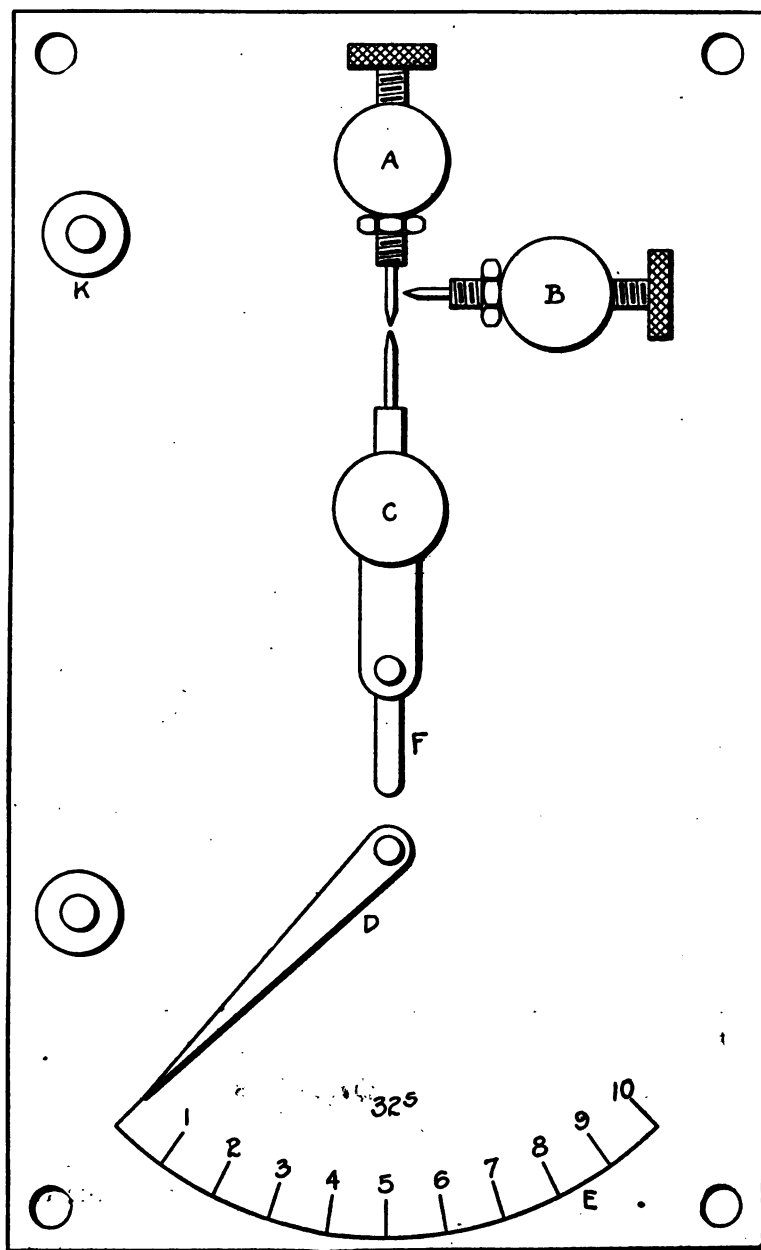

Fig. 418. High-Tension Test Points with Astatic Gap
**Proofs.** A magneto is placed in the test stand and the plug wires are connected to the multiple gap, Fig. 418. Starting with a low speed, each point will be seen to spark perfectly, and this will continue until a higher speed is reached, when two of the points, 1 and 4 or 2 and 3, will cut out either all the time or intermittently. This failure closely resembles breaker trouble, but if the missing gap be shorted with a screw driver, the missing will be transferred
**Astatic Gap.** The astatic gap has three points, Fig. 418. Point *A* is connected to the high-tension lead of the coil or arma-
**Special Dial Gap.** For quick results, utilize the special dial gap, Fig. 418. This gap has a fiber base  $\frac{1}{4}'' \times 3\frac{1}{4}'' \times 5\frac{1}{2}''$ , on which are mounted two stationary points marked *A* and *B* and a grounded movable point *C*; below is a pointer *D*, which moves on the scale *E*. The movable point *C* slides in the slot *F* and is held by a plate and two rivets. The lower part of the point body *C* projects through and forms one rivet, while the other projects through the plate about  $\frac{1}{4}$  inch, and the cam bears on it, as well as the spring, holding the plate assembly against the cam. Point *A* is connected on the back to terminal *K*.